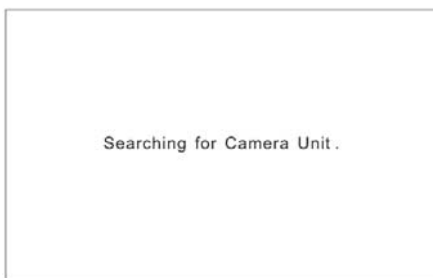

Fig. 1
- (1) Connect the HDMI video source with the “HDMI IN” port CW-H150 transmitter.
- (2) Connect the “HDMI OUT” port of CW-H150 receiver with monitor or other receiving devices.
- (3) Power the CW-H150 transmitter and receiver, the transmitter “Power” LED on, “Video” and “Network” LED flash; the receiver “Video” and “Network” LED flash; the monitor or switcher will display as Fig. 1